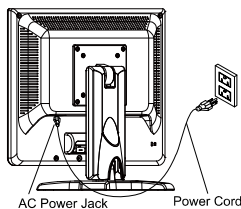

Figure 1-5
1. Connect the power cord to the LCD Monitor.(See Fig. 1-5)